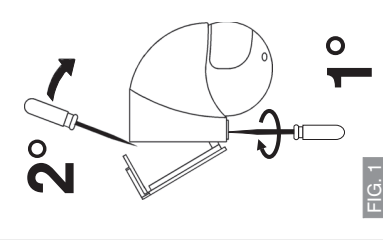

FIG. 1
- To detach the base cover from the unit (FIG. 1).